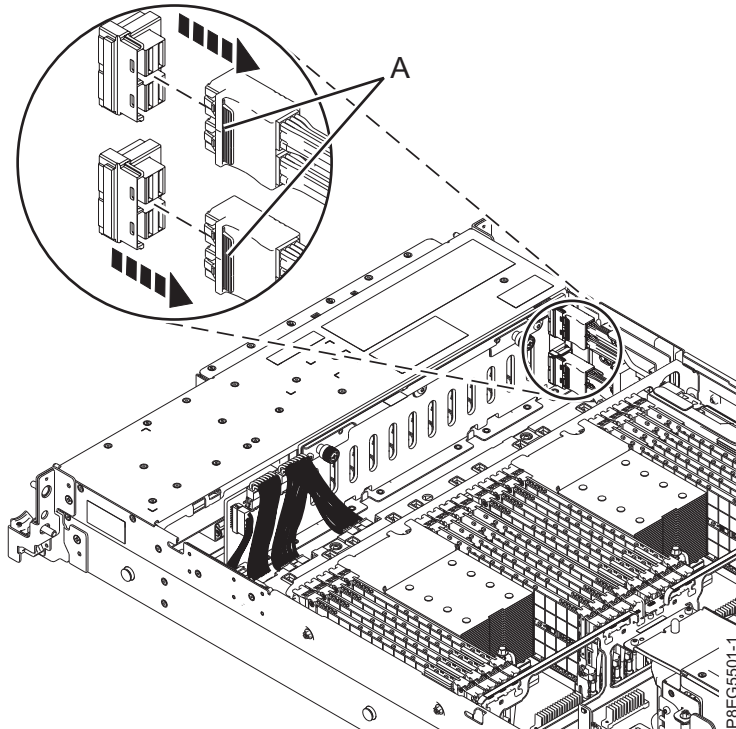

Figure 2. Disconnecting the front SAS cables
3. Label the front SAS cables, paying attention to the connectors each cable attaches to on the disk drive backplane and the SAS RAID internal adapter. Disconnect the front SAS cables from the disk drive backplane by pressing the latch (A) and unplugging the cable as shown in Figure 2 on page 5.